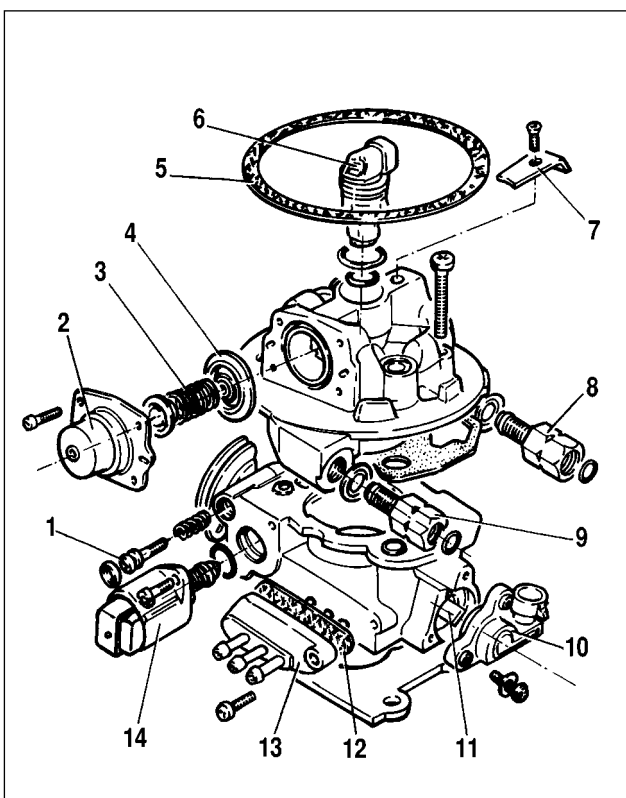

Fig.9-4. Components and assemblies of central injection unit:
Undo the retaining screws and remove throttle position (TP) sensor 10 (Fig. 9-4), injector 6, fuel pressure regulator, vacuum hose manifold housing 13 and idle air control valve 14.